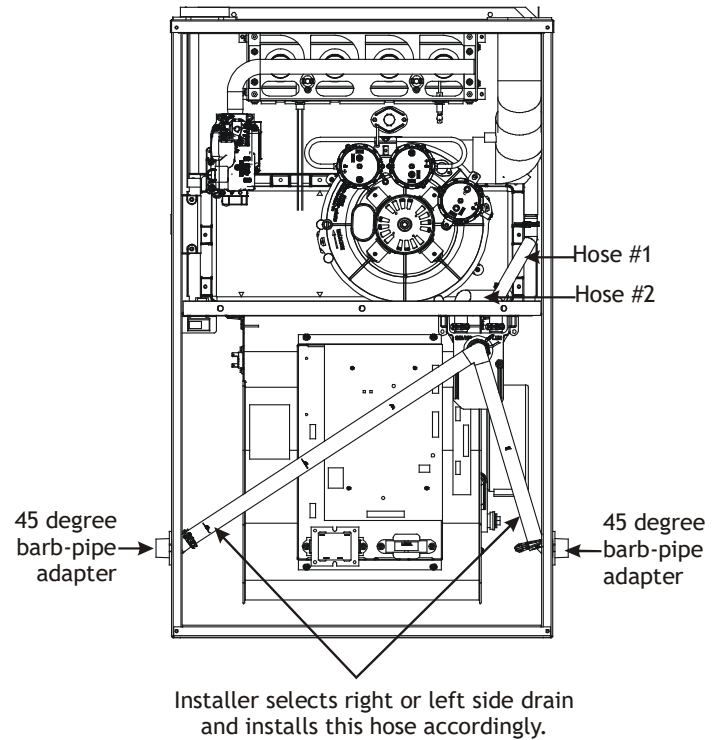

Figure 26
1. Locate and Install the 45° pipe / hose drain coupling from the outside of the cabinet (barbed end goes in the cabinet) through hole in the right side of the cabinet and secure with two field supplied #8 self-tapping screws (see Figure 26).
1. Install the 45 degree pipe / hose drain coupling from the outside of the cabinet (barbed end goes in the cabinet) through the hole in the left side of the cabinet and secure with two field supplied #8 self-tapping screws (see Figure 26).